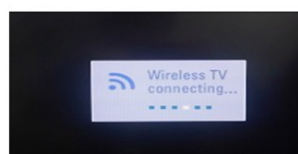

Fig.3 Connect the Dongle
- 2) At OSD of SET, check the message like Fig 3.